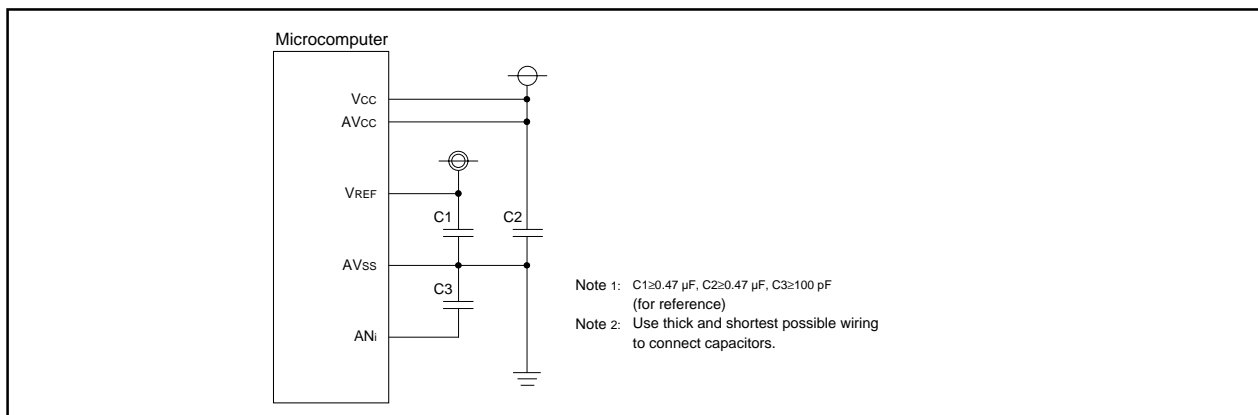

Figure 1.6.1. Use of capacitors to reduce noise
2. To reduce conversion error due to noise, connect a voltage to the AVcc pin and to the Vref pin from an independent source. It is recommended to connect a capacitor between the AVss pin and the AVcc pin, between the AVss pin and the Vref pin, and between the AVss pin and the analog input pin (ANi). Figure 1.6.1 shows the an example of connecting the capacitors to these pins.